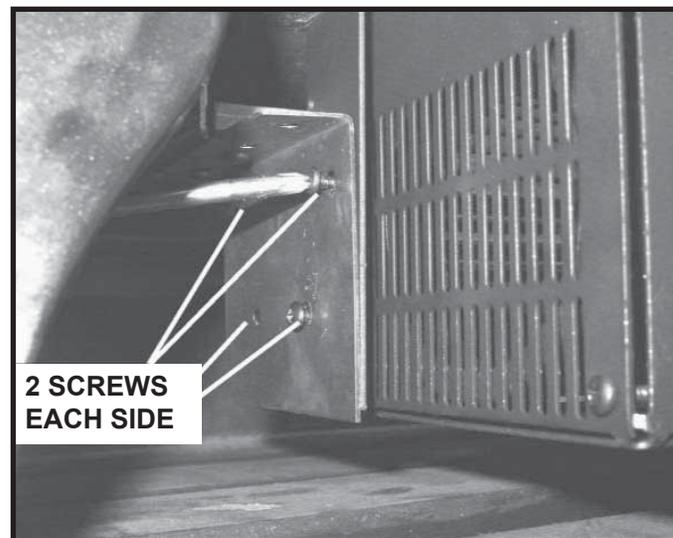

Figure 31
5. Attach the blower housing to the rear of the appliance using four screws supplied with the BK-GAS kit. (Two on each side as shown in Figure 31.